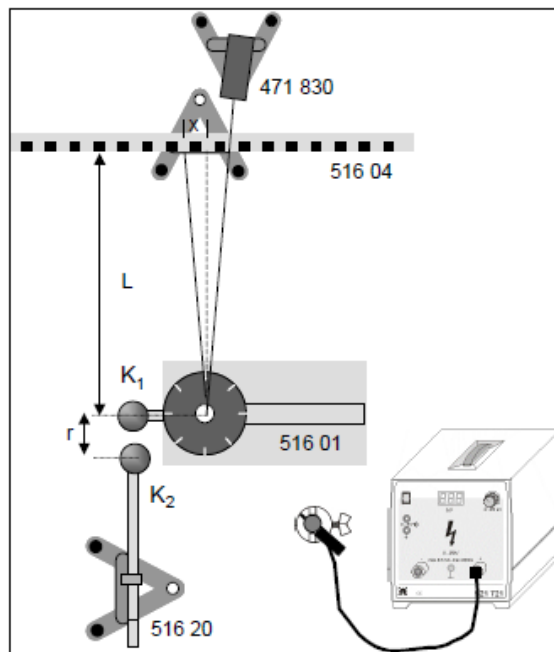

Fig. 1: Schematic diagram of experimental setup (wiring diagram) with the torsion balance to confirm Coulomb's law of electrostatics.
- Mount the He-Ne-Laser and the scale on stand. Adjust the mirror and the He-Ne-Laser at a distance L of at least 2 m (Fig. 1).
- Set the marker on the stand guide rod to 3.1 cm and move the stand towards the torsion balance so that the distance between K_1 and K_2 is 1 mm (Fig. 1.). The center points of the spheres are than 3.1 cm apart (sphere diameter 3.0 cm). Thus the marker setting of the guide rod now al-ways gives the distance between the sphere center points. (This only applies if the spheres are not charged. The error of the